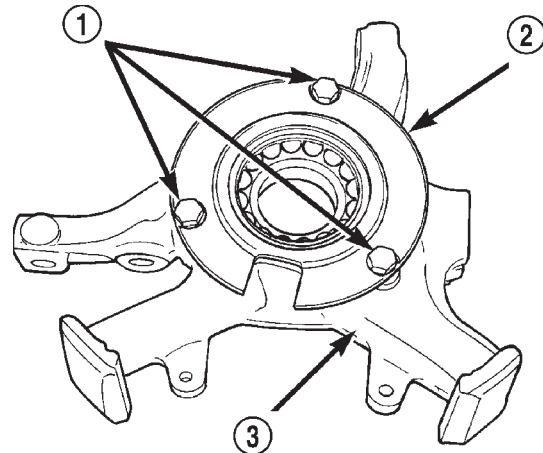

Fig. 36 Wheel Bearing Retainer Plate
(8) Remove the bearing splitter from the steering knuckle.
(9) Remove the three bolts mounting the bearing retainer plate to the steering knuckle (Fig. 36). Remove the bearing retainer plate from the steering knuckle.